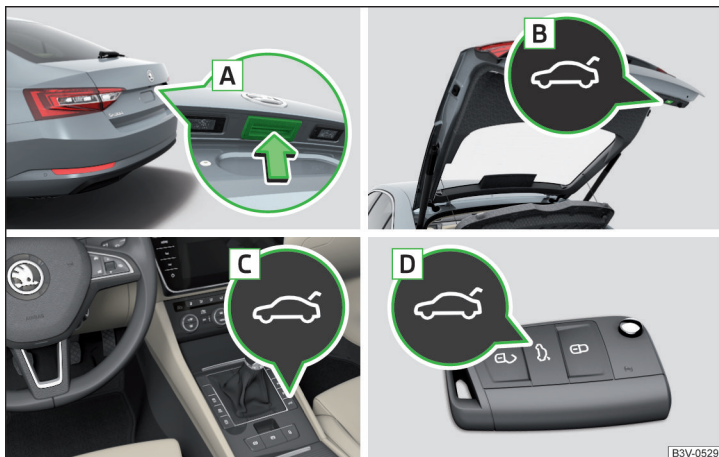

Fig. 56 Lid operation
- ▶ By pressing the handle **A** » Fig. 56.
- ▶ By pressing the button **B** » Fig. 56.
- Button **A** » Fig. 56 is deactivated when starting or at a speed of more than 5 km/h. The button is activated again after the vehicle has stopped and a door is opened.
- › Press and hold button **B** » Fig. 56 on page 64 until you hear an acoustic signal.
The lid does not react to an opening signal	Removing a possible obstacle (e.g. snow), re-opening the lid » page 64 Press handle A » Fig. 56 on page 64 and pull the lid upwards